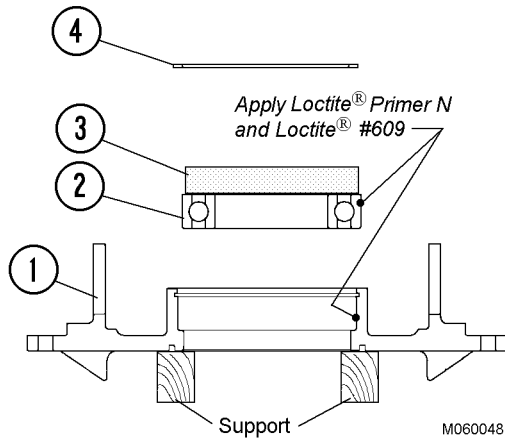

FIGURE 6-48. FRONT MAIN BEARING INSTALLATION
7. Setup the bearing retainer (1, Figure 6-48) on supports as shown.
- a. Apply Loctite® Primer N to bearing (2) outer race and bore of bearing retainer.
- d. Install snap ring (4).